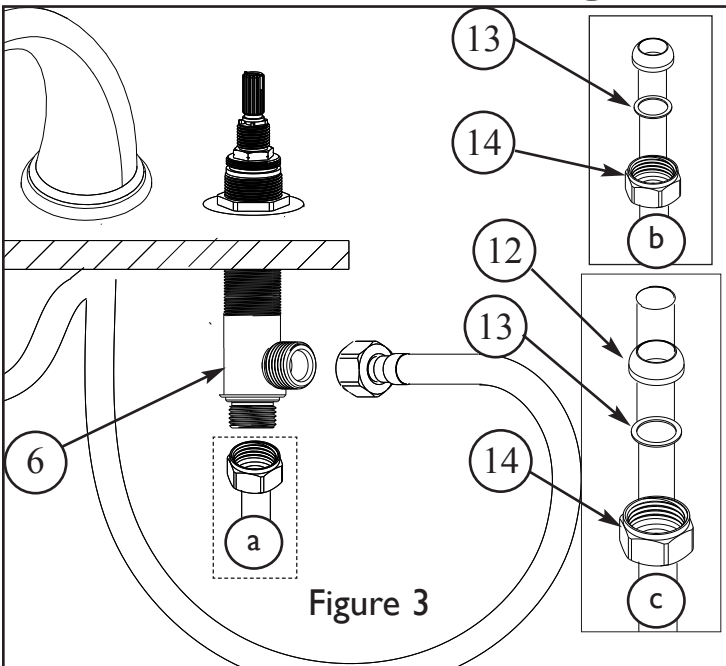
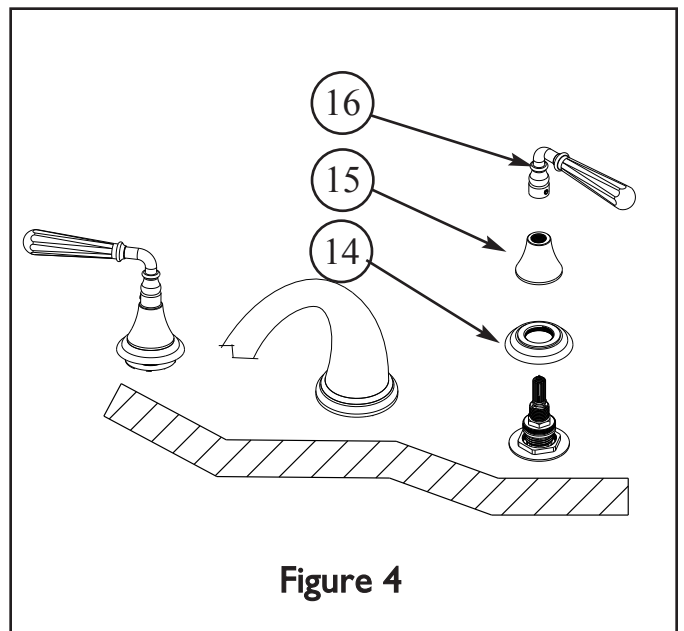

Figure 3
Figure 4
4. Connect hot/cold water supply to appropriate 1/2'' NPSM valve BODY (7), utilizing one of the three following types of risers. Supply risers not included. See Figure 3.
- a. 1/2'' IPS flexible riser: discard rubber nosecone WASHER (11), friction WASHER (12) and coupling NUT (13).
- b. 3/8'' or 1/2'' OD bullnose riser: utilize friction WASHER (12) and coupling NUT (13).
- c. 1/2'' copper riser: utilize rubber nosecone WASHER (11), friction WASHER (12) and coupling NUT (13).
5. Attach ESCUTCHEON (14), BONNET (15) and HANDLE (16) to cartridge. Any adjustments for rotational alignment must be made to the valve BODY (7) - not to the cartridge. (Note: Allow minimum spacing between HANDLE (16) and BONNET (15) to prevent damage to the surface finish.) Secure HANDLE (16) into place with setscrew. See Figure 4.